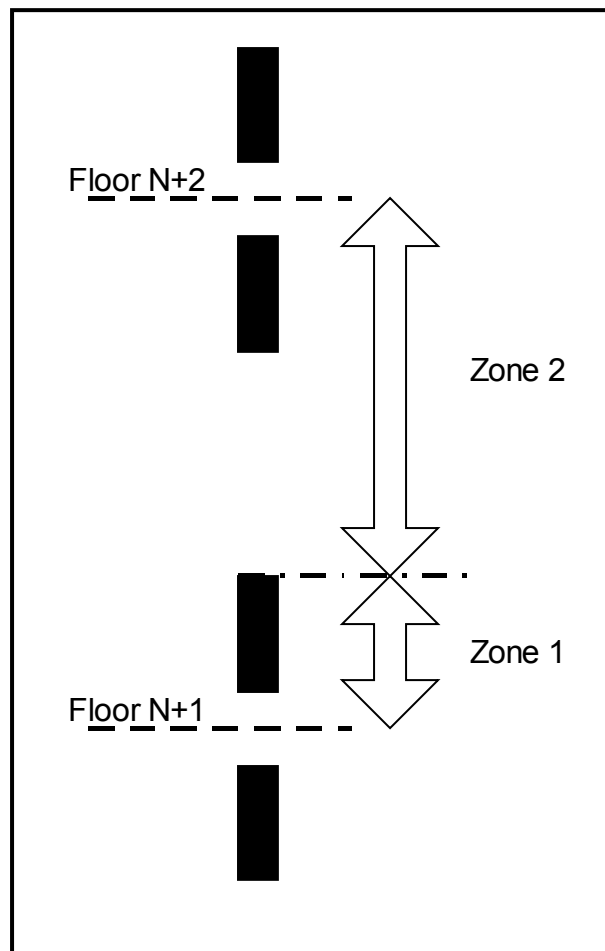

Fig. 5.1 – Short floor (first type of slow down)
1. call at short floor (fig. 5.1): the lift is at floor N+1 and must go to floor N+2. The lift will start at high speed (Zone 1) and start to slow down when it overruns the first magnet entering in Zone 2.